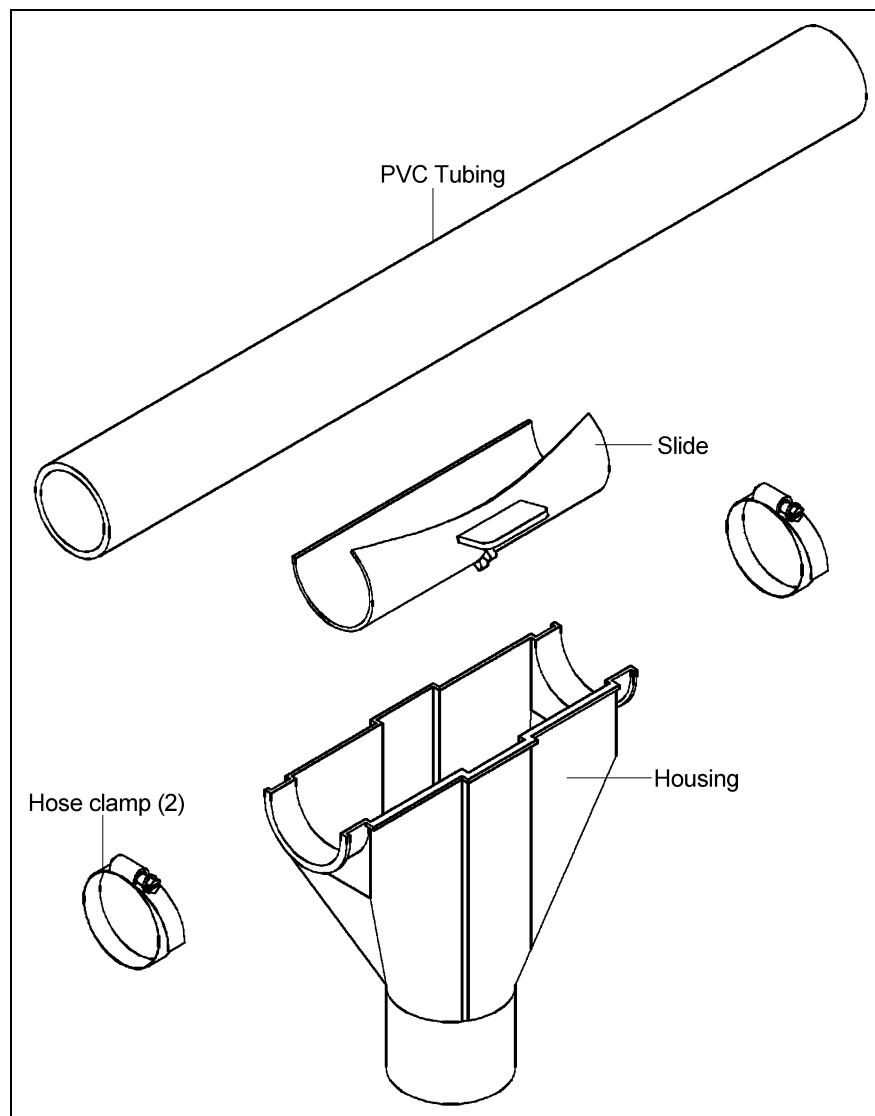

Figure 5O Kwik-Attach Drop Kit Installation
1. Snap the slide around the tube over the outlet hole. (See Figure 5O.)
2. Fasten the housing to the tube using two (2) hose clamps. Make sure the outlet hole is in the middle of the housing.